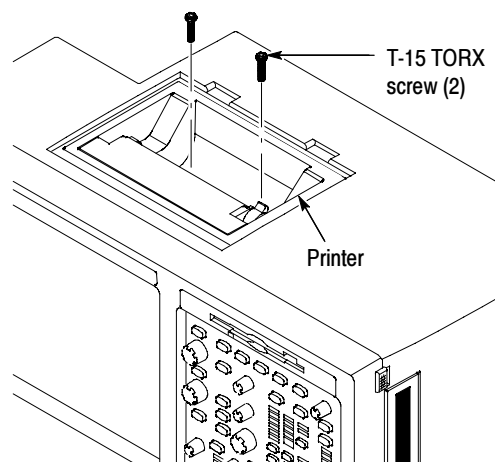

Figure 5: Mount the printer
2. Lower the printer into the instrument, being careful not to pinch the cable. Secure the printer with the two TORX T-15 screws included with the kit. Refer to Figure 5.